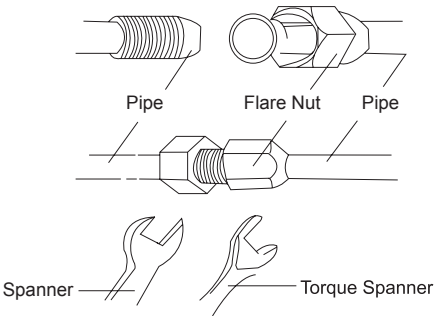

Fig. 18
- (1). Align the flare end of the copper pipe with the screw and then tighten the screw by hand.
- (2). Tighten the screw with the torque wrench until it clicks (as shown in Fig. 18).